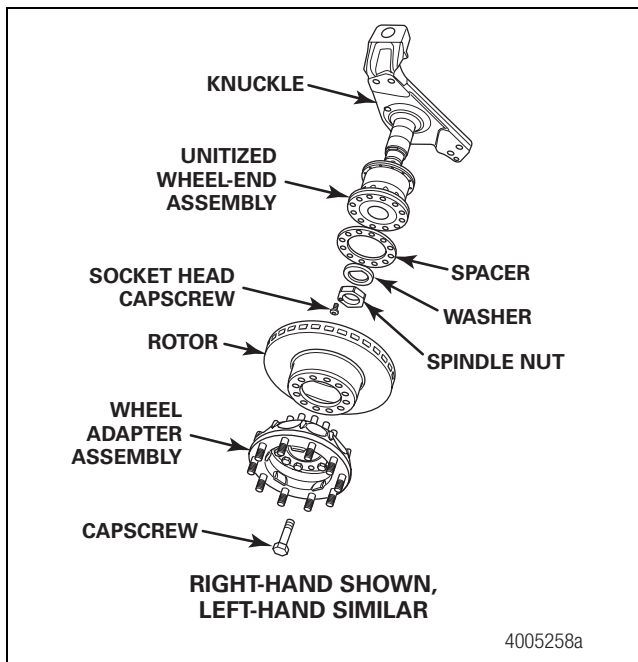
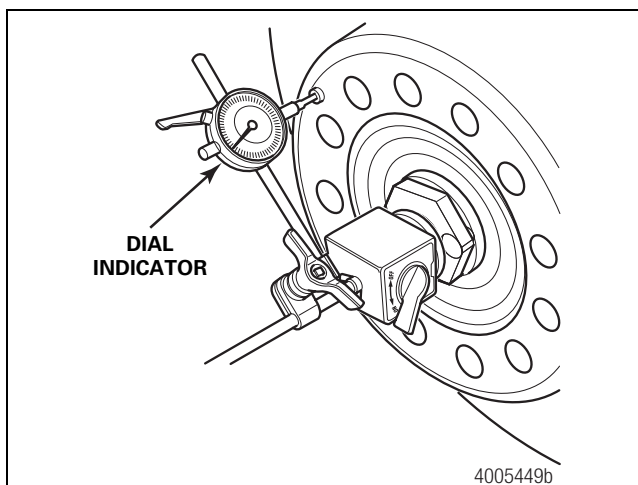

Figure 4.13
Figure 4.14
- Remove the wheel, wheel adapter, rotor and spacer. The outboard and inboard seals of the bearing may purge small amounts of grease that are visible during inspection. This is a normal occurrence. Attach the magnetic base of a dial indicator onto the end of the spindle. Touch the indicator stem against the unitized wheel end mounting face. Figure 4.13. and Figure 4.14.